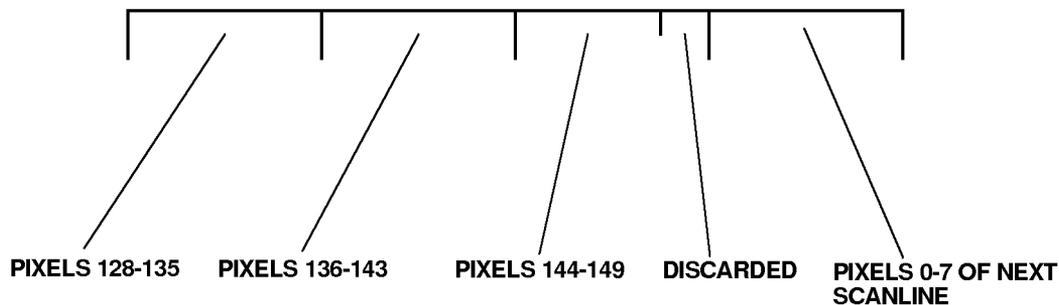

Figure A-4. Color Expand Transfer
- 1 The data sent in the fifth DWORD transfer is shown in Figure A-4.